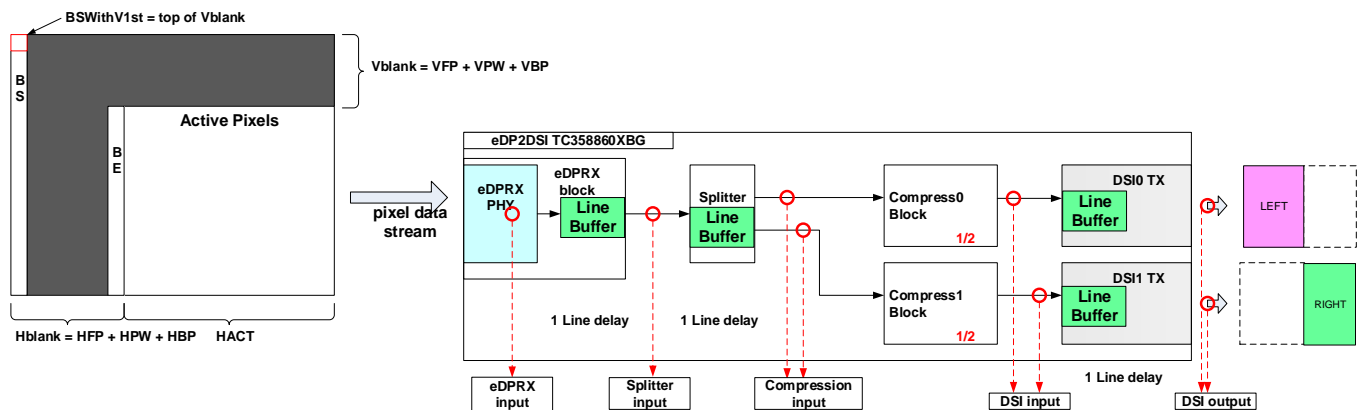

Figure 4-16 Pixel data flow
5. The splitting is shown graphically in Figure 4-16.